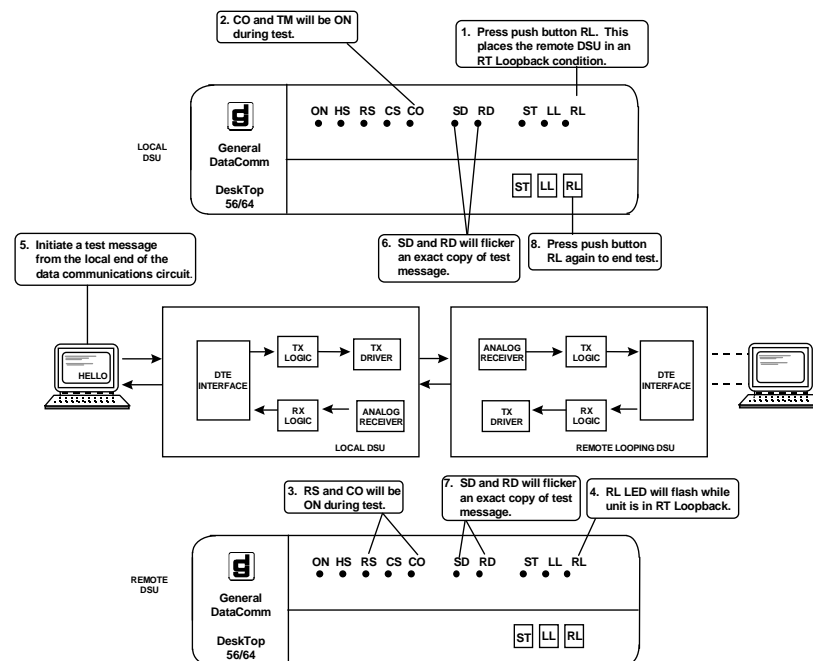

Figure 4-3 Remote Loopback Test
Remote Loopback (RL) checks the performance of the local and remote DSUs, the local DTE, and the communications line. When you initiate this test, the remote DSU enters the RT Loopback condition. The remote DSU disconnects its DTE transmitter and receiver from the DTE interface, then connects them together, creating a circuit that loops the receiver digital output signals to the transmitter input. *Figure 4-3* illustrates RL.